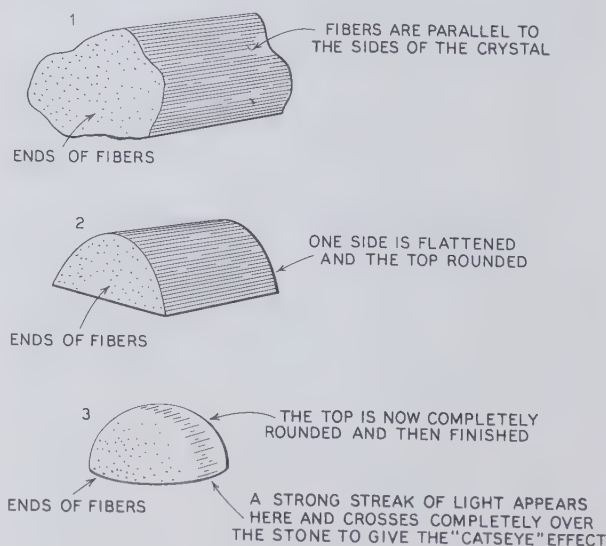

Fig. 75 Producing a catseye from a tourmaline crystal.
**Catseye Gems.** If a transparent or translucent mineral contains numerous thin, hair-like fibers of another mineral, light reflected from a polished surface displays a fibrous sheen like satin or silk. This effect is called *chatoyancy* and is responsible for the streaks of light in catseye gems and star stones. Almost any fibrous gem makes catseyes but the best are cut from minerals which would be transparent were it not for inclusions. Orientation for cutting is simple—the fibers must lie flat on the bottom of the cabochon. If the stone is oval in outline, the fibers must also lie across the long axis of the gem. The making of a catseye from a piece of tourmaline is shown in Figure 75. The only real trick is to be sure that the base of the cabochon is parallel to the fibers.